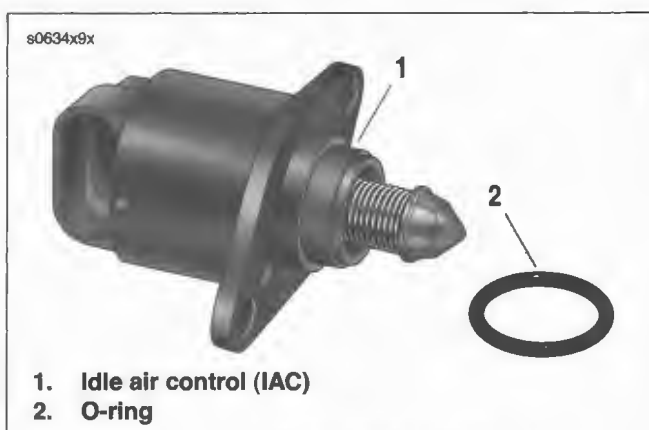

Figure 4-25. Idle Air Control
3. See Figure 4-25. Pull IAC (1) and o-ring (2) from throttle body.
1. See Figure 4-25. Apply **clean** engine oil to IAC o-ring (2). Install o-ring in counterbore of induction module.